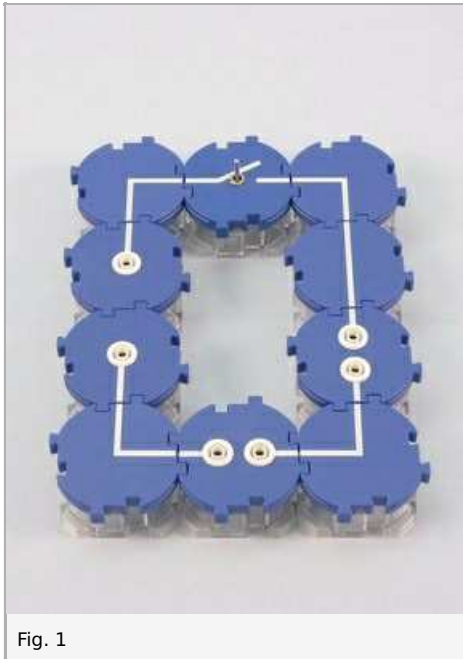

Fig. 1
- Set up the circuit as shown in Fig. 1 and Fig. 2, first with the switch open and without the yoke in the field coil (400 turns); use two 50 cm cords to connect the galvanometer to the induction coil (1600 turns); position the induction coil and the field coil in front of the circuit.